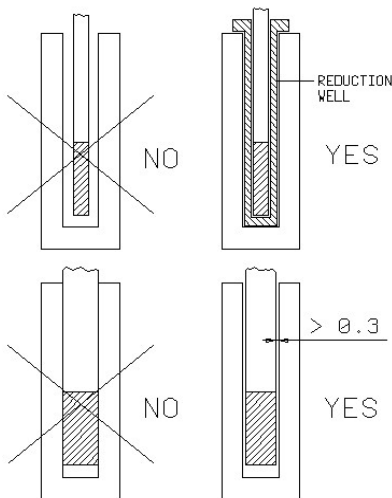

Fig.1
- Use the reduction insert; check that the diameter of the hole is at least 0.3mm bigger than the diameter of the probe (figure1).